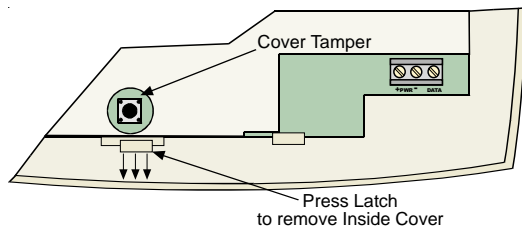

Figure 2 - Removing the Inner Cover
- Remove the Inside Cover (see Figure 2) by pressing the Latch.